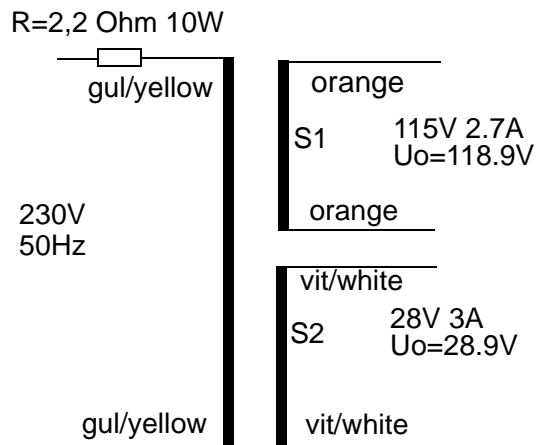

Figure 24 Transformers.
**Power supply:** See Figure 24 on page 52 - Transformers.